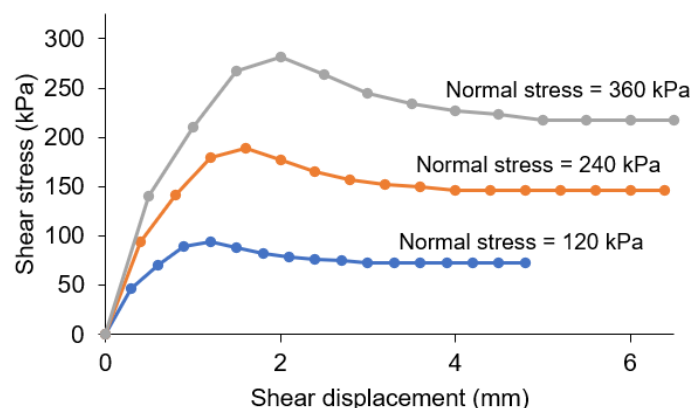

Figure QA3. Results from direct shear tests on the SAND specimens
- A3. **Figure QA3** shows results recorded during direct shear tests on specimens of a SAND compacted to the same initial void ratio. Plot the Coulomb failure envelope and determine the peak friction angle for the SAND. [5 marks]